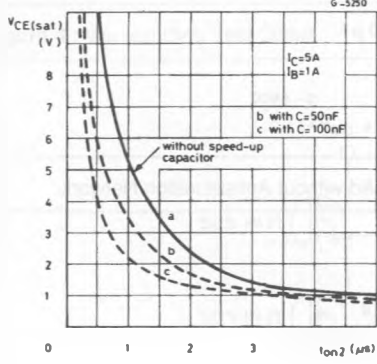

Figure 1 : Switching Times Test Circuit on resistive Load.
**RESISTIVE SWITCHING TIMES** (see fig. 1)
Switching Times Resistive Load (see fig. 1).